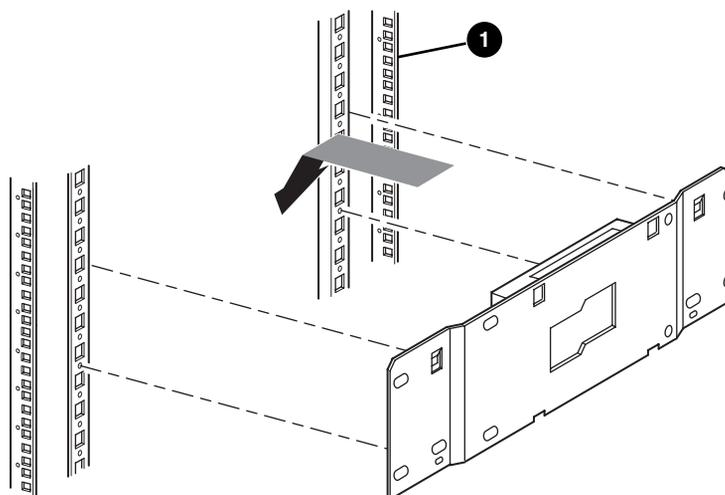

Figure 1: Installing the LAN hub into a standard 7000/9000/10000 rack enclosure
1. Install cage nuts/clip nuts as indicated in Figure 1 through Figure 4.